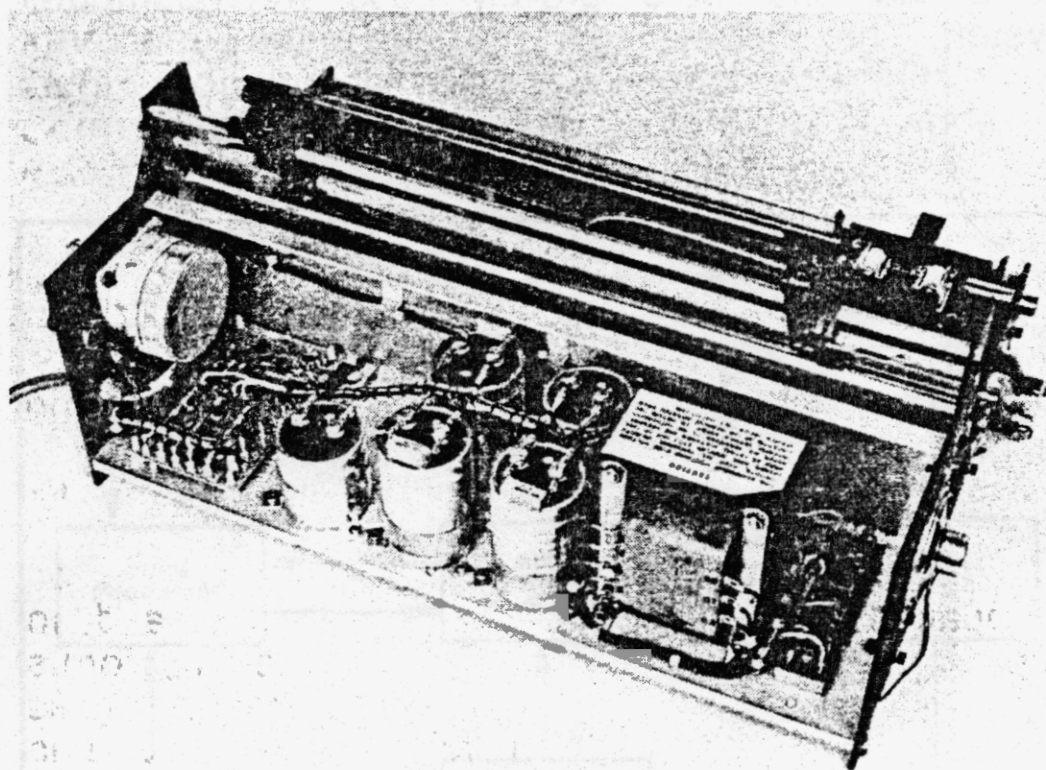

FIG. 4-2 SuperTerm Power Supply
The rectifier/filter section of the power supply steps down the A.C. line voltage to levels required for the SuperTerm. The A.C. line fuse is located in the "hot" side of the power transformer primary circuit. The three (3) secondaries of the power transformer are connected to three (3) encapsulated bridge type rectifiers mounted to the chassis as shown in figure 4-2.